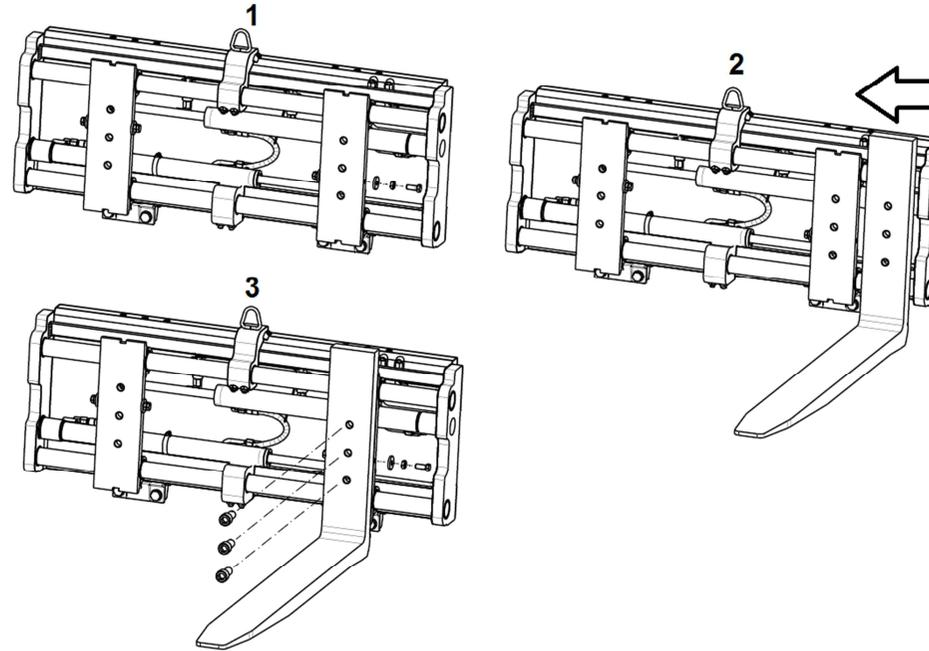

Fig. 017
3.3.5. Position the supports around the middle and remove the washers and side screws (ISO 3318 18 mm wrench or 24 mm if class 4) (phase 1 Fig.017). Insert the fork on the side and slide it onto the support (it is also possible to open the support slightly to slide in the fork) (phase 2 Fig. 017); ensure the fork positioner's block is inserted correctly in the support's notch. Replace the washer, screw and nut for blocking the side and the fork screws (ISO392617 mm wrench) (phase 3 Fig. 017), tightening these to 680 Nm - 500 ft-lbs.